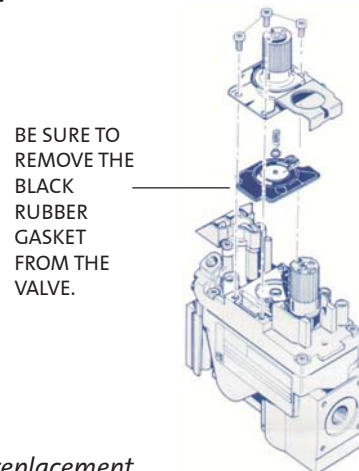

Figure 32. Valve Regulator replacement.
7. Change the Regulator: See Fig. 32.
Install the optional Brick Panels before placing the Logset. Place the panels in position in the order as numbered in Fig. 32. No fasteners or tools are required.